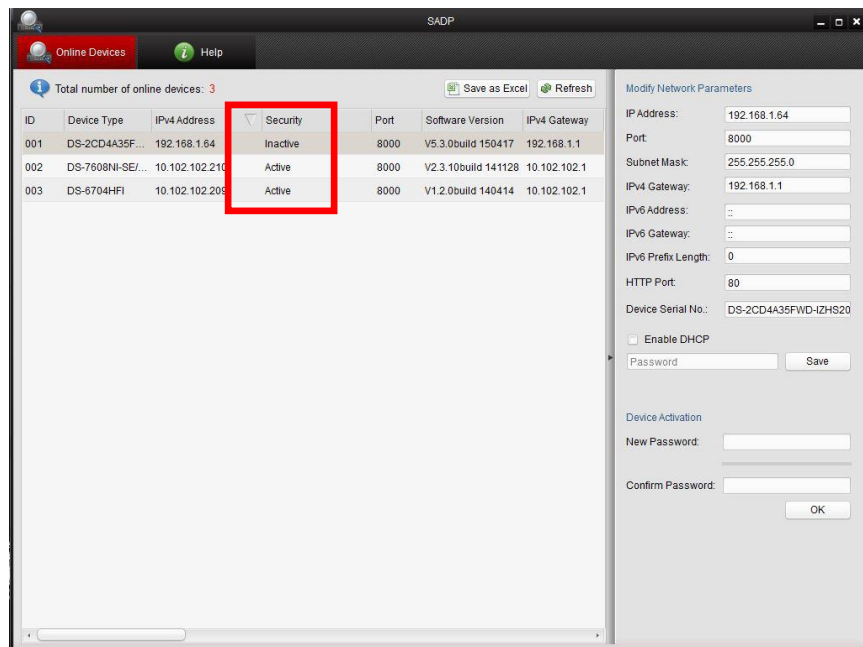

Figure 22 Security Field
- A new field called “Security” will display whether the DVR/NVR is active or not (**Figure 22**).